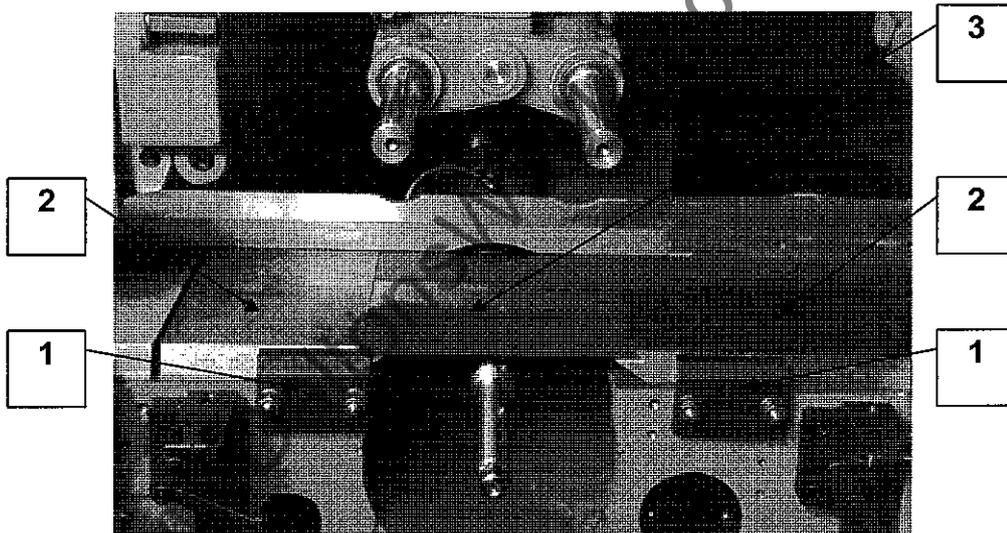

Figure 8.2
8.2 Splitting Bedplate (Figure 8.2)